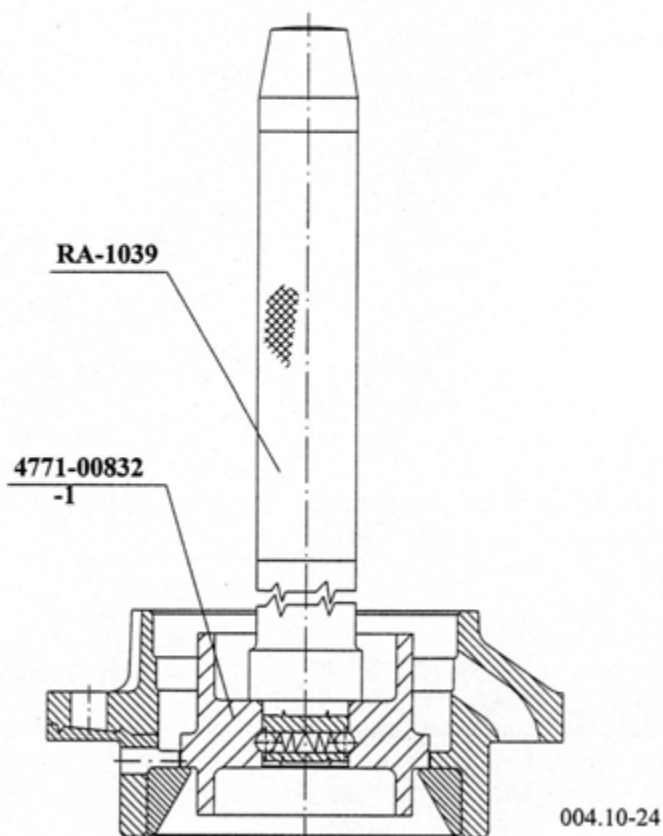

Fig. 5.: DRIVING OUT THE INNER TAPER ROLLER BEARING OUTER RACE
Turn the bearing cage and drive out the inner taper roller bearing outer race (12) by means of the tools shown (Fig. 5.).
Before pressing it onto the drive pinion subassembly the bearing cage as shown in Fig. 5 on the loose-fit master shaft in order to determine the thickness of the spacer to be installed, while tightening the flanged nut to the specified torque.